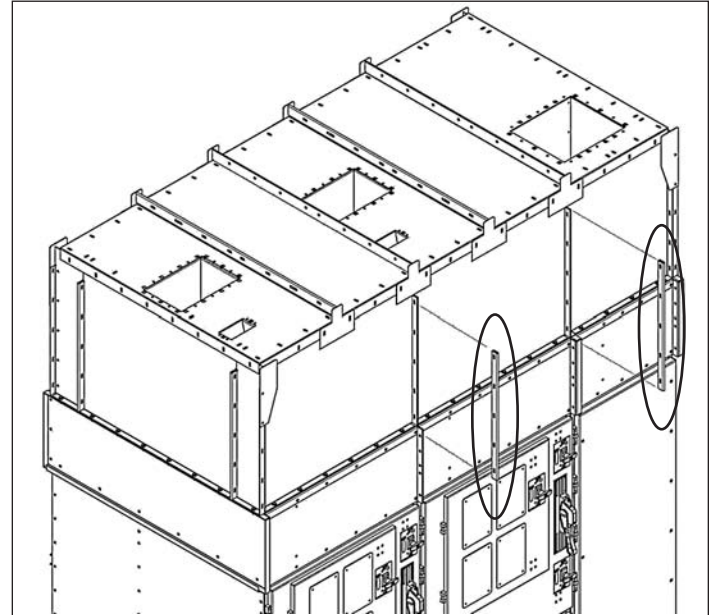

Figure 24. Installing Vertical Seam Covers
- B Install vertical seam covers (87C1093H02) over adjoining vertical flanges, using ¼-20 standard screws and nuts. (See **Figure 24**).